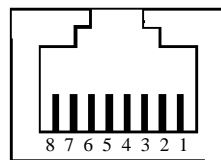

Figure 14 RJ45 Port
Figure 14 shows the pin numbers of the 10/100Base-T(X) RJ45 port.